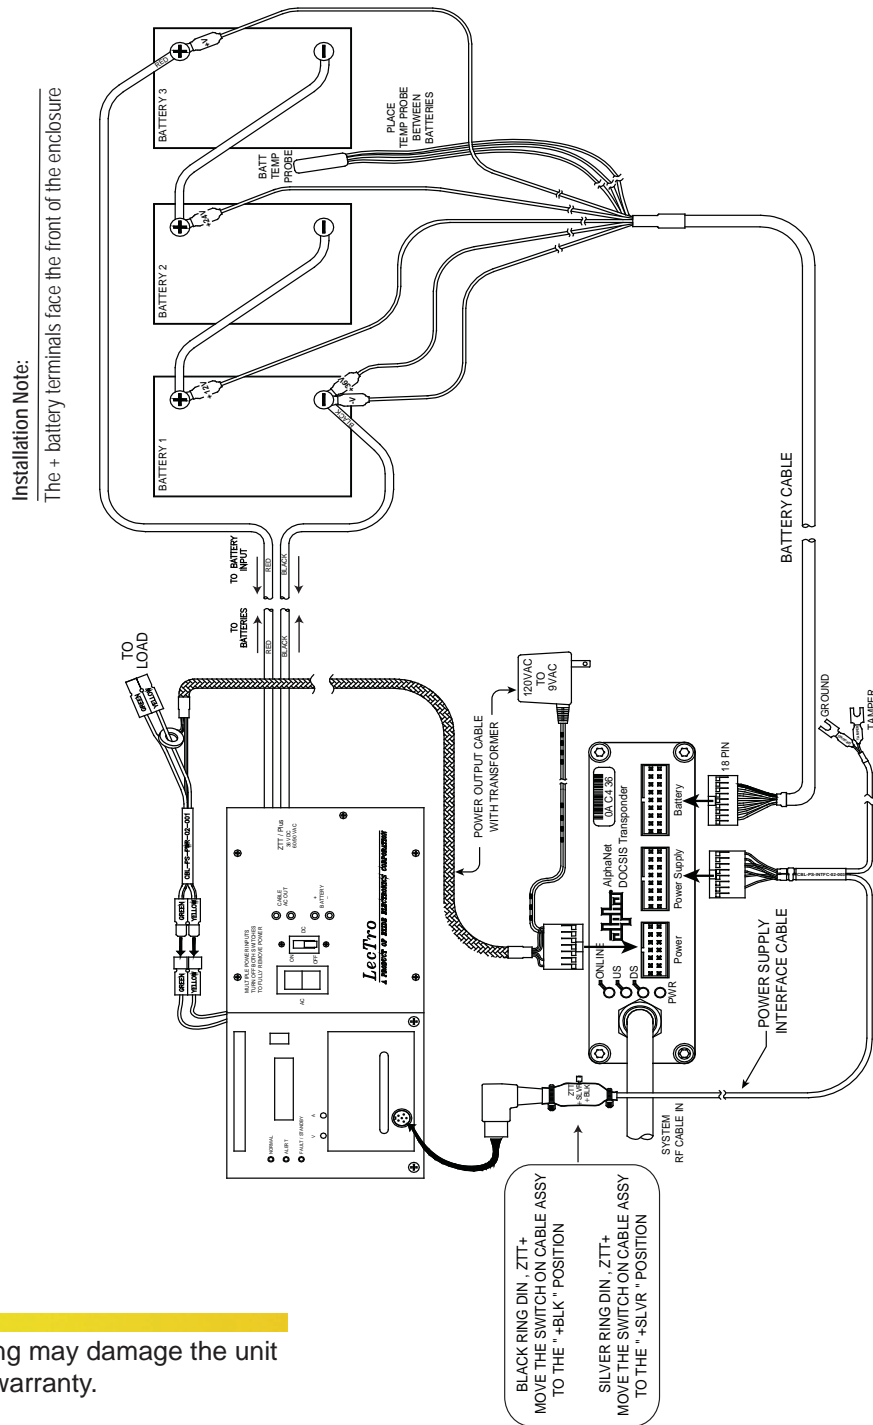

Fig. 3-11, Alpha/Lectro ZTT+ Series Silver and Black Installation
3. Make all other harness connections following the diagram in Fig. 3-11.